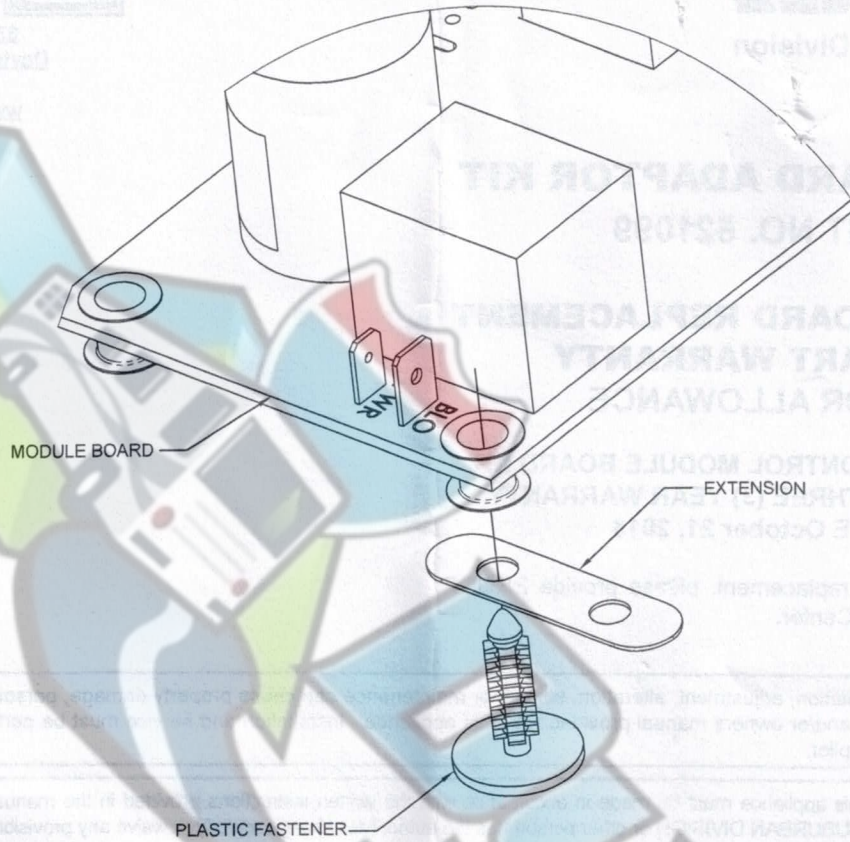

Figure 1
2. From under the board insert the plastic fastener up through extension and into center of the proper module board mounting leg until it stops. See Figure 1.
Figures 1 and 2 are located on the reverse side of this instruction sheet.